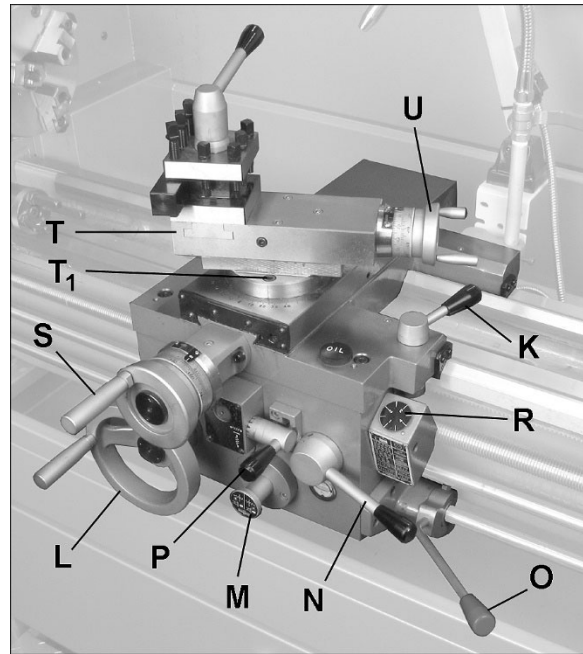

Figure 9-2 (cutting tool not provided)
Chuck should rotate counterclockwise, as viewed from tailstock, when spindle direction control lever (see O, Figure 9-2) is in down position. If rotation is opposite, disconnect power and switch any 2 of the power supply wires to the junction box.
7. **Carriage Lock (K, Figure 9-2):** Turn clockwise to lock, counterclockwise to unlock.
8. **Carriage Handwheel (L, Figure 9-2):** Rotate to manually move carriage assembly along bedways. A scale is mounted to the ring, graduated in 0.005 inch increments, and can be calibrated by rotating the ring as needed.
9. **Feed Direction Knob (M, Figure 9-2):** Push in for left-to-right motion; pull out for right-to-left motion.
10. **Half Nut Lever (N, Figure 9-2):** Engages leadscrew for threading operations – down to engage, up to disengage.
11. **Spindle Direction Control Lever (O, Figure 9-2):** Move lever to the right so that its tab clears the notch, then *down* for forward spindle rotation, or *up* for reverse spindle rotation. Allow spindle to come to a stop before changing directions. Position lever in neutral position (tab in notch) before shutting off lathe.
12. **Power Feed Engagement Lever (P, Figure 9-2):** Engages powered operation. Push to one of three positions: LEFT and UP for cross feed operation (cross slide powered movement); RIGHT and DOWN for longitudinal operation (carriage powered movement); MIDDLE position allows engagement of half nut for threading.
13. **Threading Dial (R, Figure 9-2):** Indicates point on leadscrew where half nut can be re-engaged to continue inch threading.
14. **Cross Slide Handwheel (S, Figure 9-2):** Clockwise rotation moves cross slide toward rear of machine. The accompanying scale is graduated in increments of 0.001 inch (0.0254 mm), and can be calibrated by rotating the ring as needed.
15. **Top Slide:** Located atop cross slide (T, Figure 9-2); can be rotated 360° after loosening two socket head screws (T₁) in the circular base. Calibrations in degrees at the base will assist angle placement. Tighten screws (T₁) before operating.
16. **Top Slide Handwheel** (U, Figure 9-2): Rotate to position rest. The accompanying scale on collar is graduated in 0.001 inch increments.
- Before starting spindle, check that each handle or lever is at correct position to ensure normal engagement of gears. The spindle direction control lever (O, Figure 9-2) should be at neutral position.